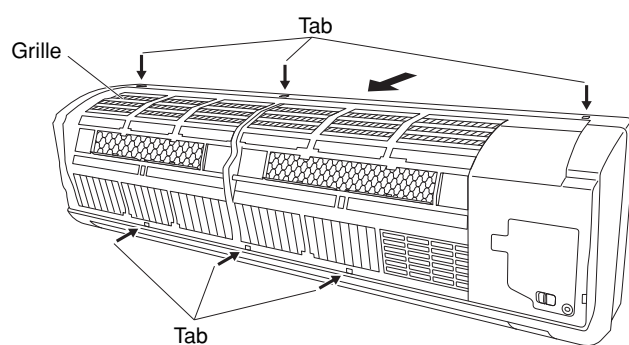

Fig. 18a-4
- (3) Press the 3 tabs at the top of the grille and the 3 tabs on the front face to separate the grille from the frame. (Fig. 18a-4)
- (4) Pull the grille towards you to remove it. (Fig. 18a-4)